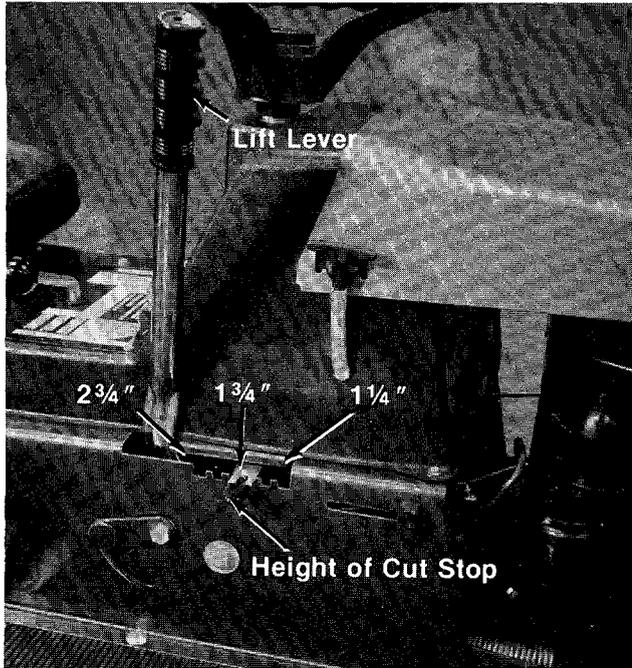

FIGURE 6.
The lift lever is used to adjust the cutting deck and engage the drive mechanism. Pulling it all the way back and locking it disengages the blades. The engine will not start unless the lift lever is in the disengaged position. See figure 6.
2. Using the height of cut stop, set the cutting height lever in the desired position. See figure 6.